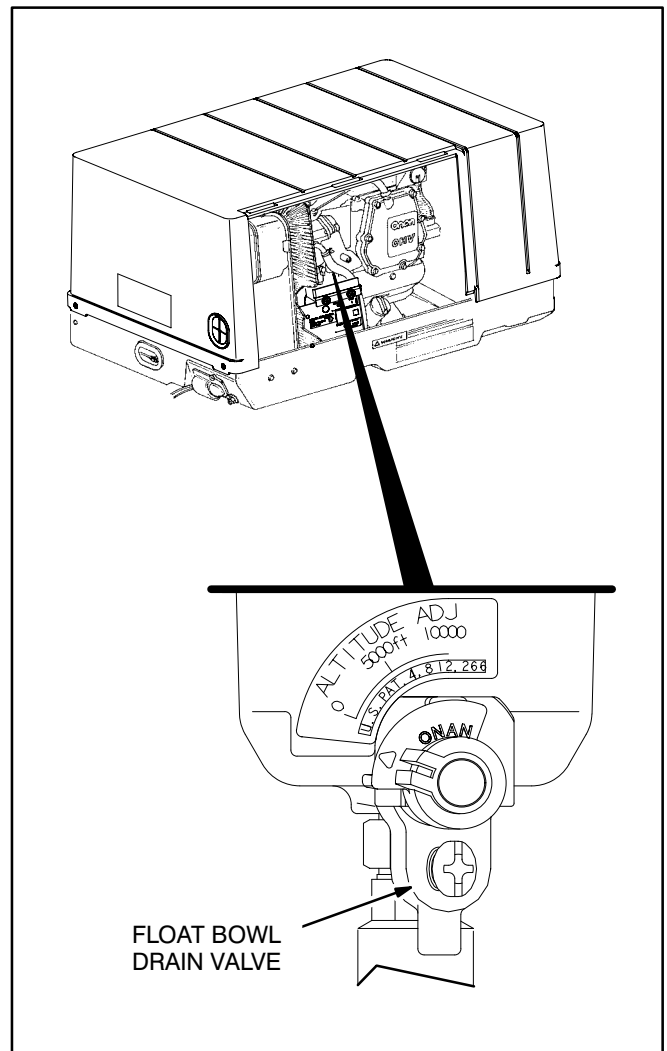

FIGURE 2-3. CARBURETOR DRAIN VALVE (GASOLINE MODELS ONLY)
9. **Gasoline Models** – Drain the carburetor float bowl to prevent deposits of gum from clogging the tiny passages in the carburetor as the gasoline in the bowl evaporates during storage (Figure 2-3). Drain it as follows: